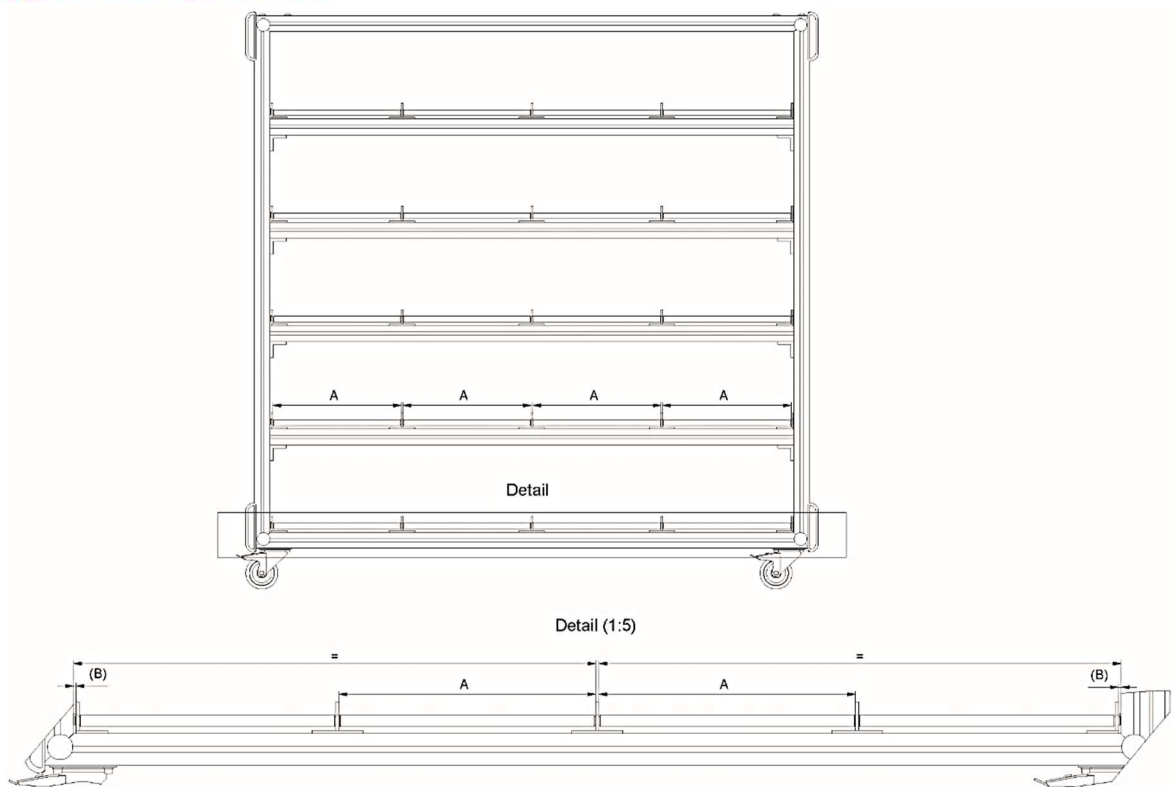
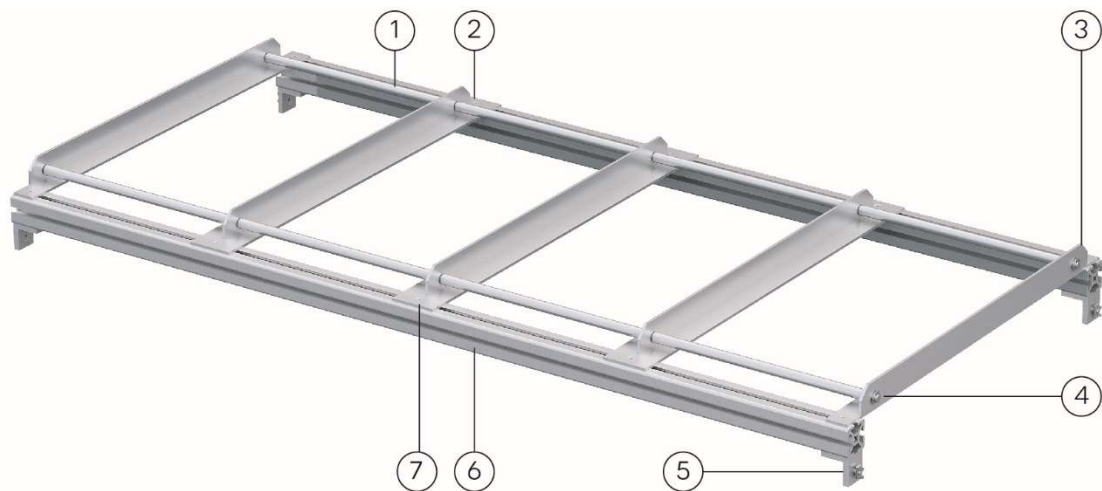

Figure 10: Dimensions for L- and T-profiles
Figure 12: FlexCart deck for boxes – upper level
The dimensions for assembling the L-profiles and T-profiles are shown below in Figure 10.
2. Position the L-profiles at either end and space the 3 T-profiles evenly over the length of the bottom frame element, as shown in Figure 10.
1. Fasten the brackets (item 5 in Figure 12) to the 4 vertical profiles of the side frame elements (item 2 in Figure 1) using the special nuts and countersunk head bolts.
2. Position the side profiles (item 6 in Figure 12) and fasten them to the brackets using the special nuts and countersunk head bolts.
4. Position the L-profiles (item 3 in Figure 12) at either end and space the 3 T-profiles (item 2 in Figure 12) evenly over the length of the side profiles, as shown in Figure 10.
5. From the short side of the FlexCart, insert the steel rods (item 4 in Figure 12) through the first L-profile.
6. Mount the aluminium tubes (item 1 in Figure 12) on both steel rods and insert the steel rods through the first T-profile.